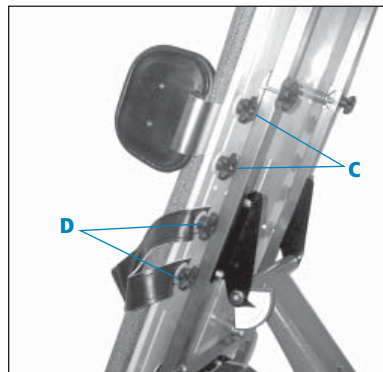

Figure 10b
- Retighten knobs (see Figure 10b).